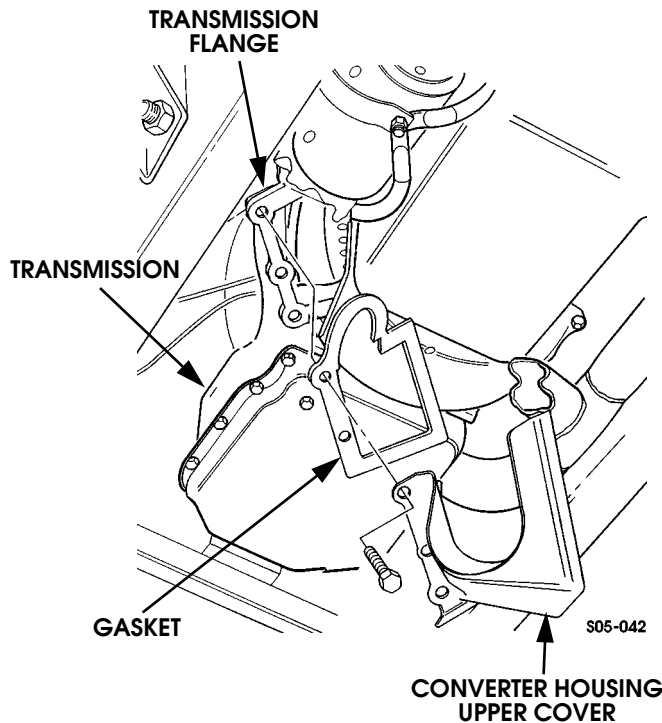

Figure 5-30: Converter Housing Upper Cover Mounting
1. Remove converter housing upper cover from transmission flange (Figure 5-30).